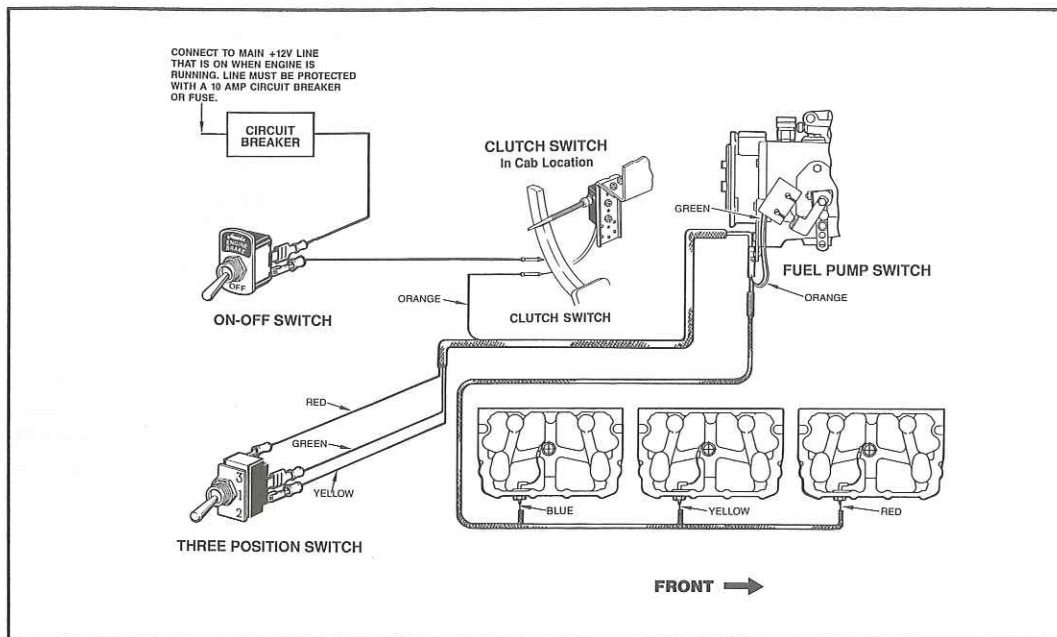
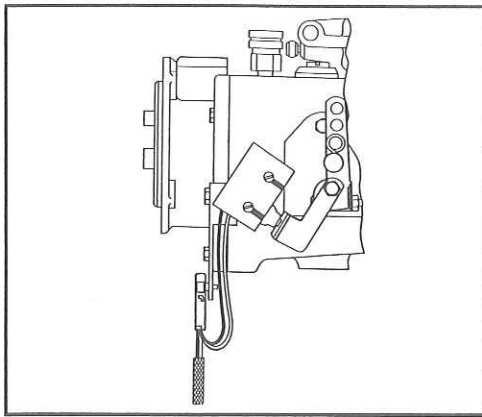
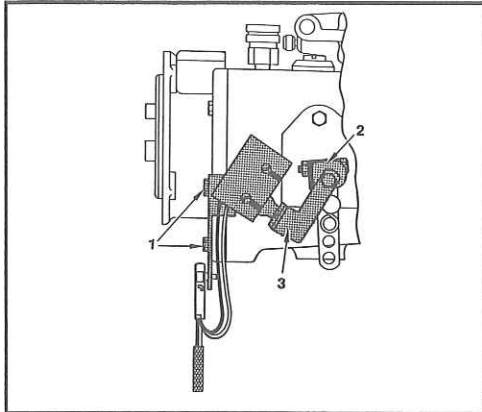

Fig. 8
Fig. 11
Fig. 12
Install the dash switches in a convenient location in the cab. Install receptacles at locations shown in wiring diagram furnished in the kit. See Fig. 8.
5. Cut wires to proper length and secure them with ties. Connect the wires, as shown in the wiring diagram (Fig. 8).
1. The pump switch actuating arm can be installed on pumps that have the throttle lever in either the up (Fig. 11) or down (Fig. 12) position.
2. Refer to Fig. 12. Attach the switch bracket and harness assembly to the fuel pump housing with the two screw and washer assemblies (1). Torque the screws to 10 lbft. (14 N·m). Assemble the clamp (2) and actuating lever (3) to the throttle lever.
4. Route harnesses and connect to components as shown in Fig. 8. Remove protective covering from connector (4) in Fig. 12. Secure the connector to the switch mounting bracket by pressing the clip attached to the connector into hole at lower leg of bracket.